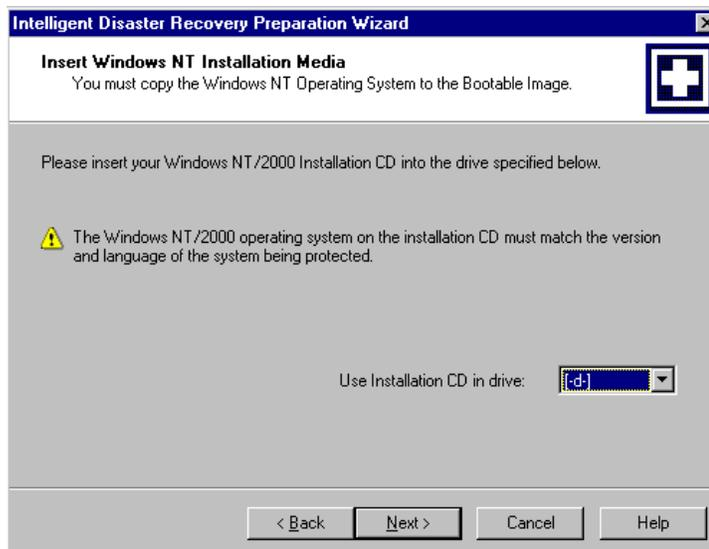

Figure 4: Insert installation CD dialog
- Insert the Microsoft Windows NT/2000 installation CD as instructed in Figure 4, and click Next to continue.